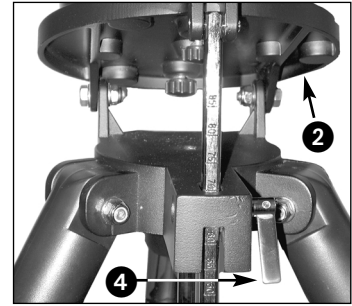

Fig. 1: Loosen control latch (4).
1. Loosen the latitude control latch (4, Fig. 1) and lift up the tilt-plate (2, Fig. 1) so that you can easily access the underside of the plate. Relock the latitude control latch, so the assembly doesn't slip while you are attaching the telescope. (See Fig. 1.)